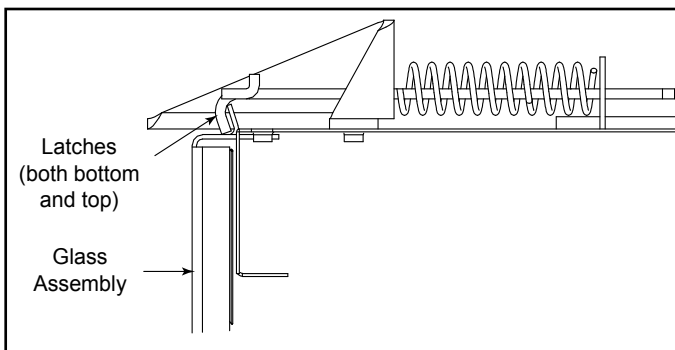

Figure 11.1 Glass Assembly
- Pull the four (two upper and two lower) glass assembly latches out of the groove on the glass frame. Refer to Figure 11.1.